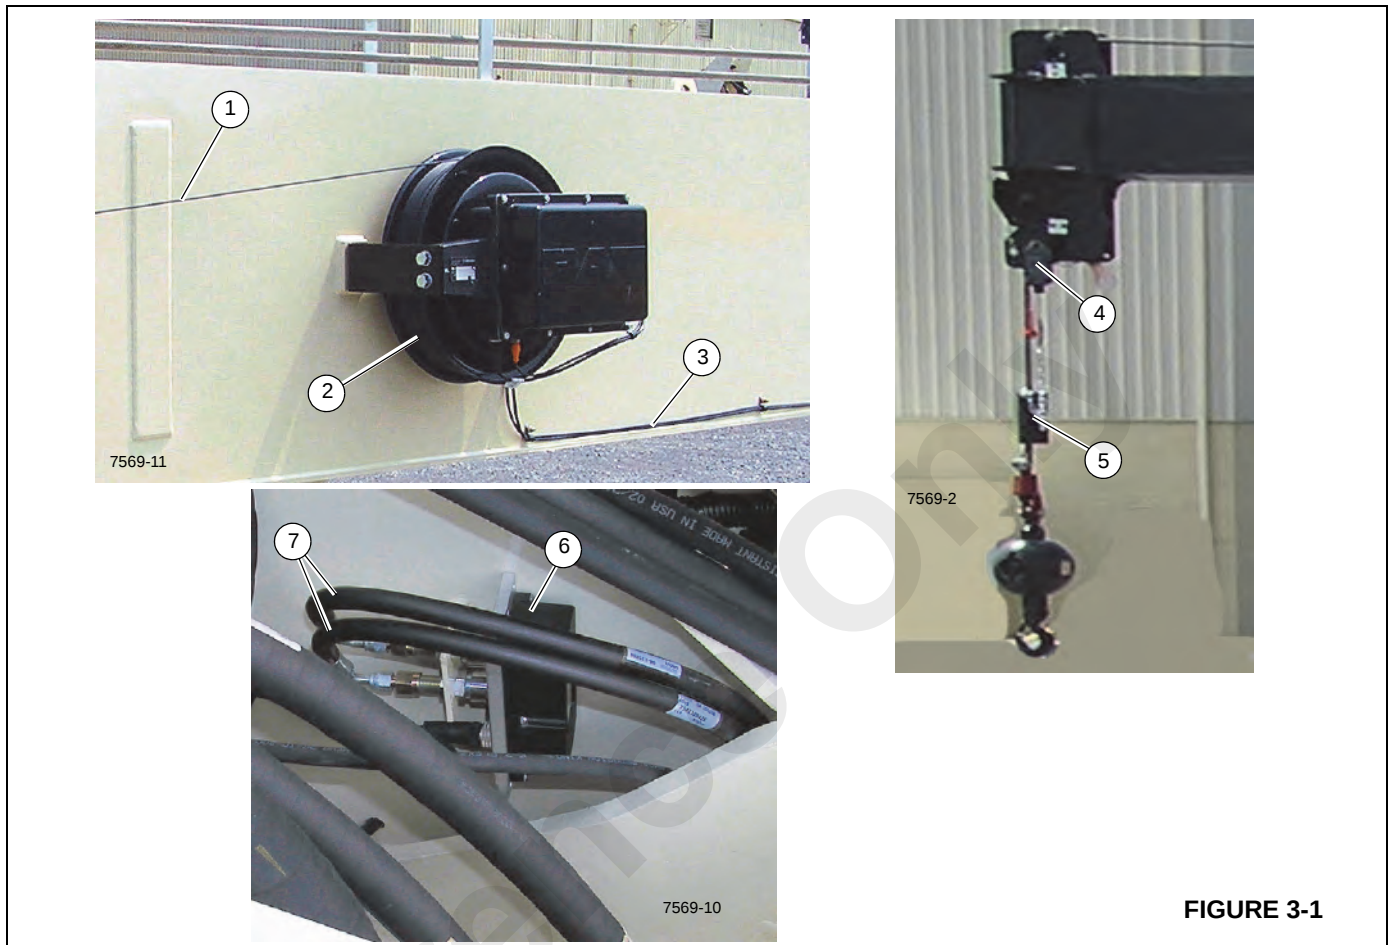

FIGURE 3-1
The boom ATB/RCL cable (1, Figure 3-1) runs from the ATB reel (2) through the boom and to the ATB switch assembly (4). The ATB switch assembly cable is attached to the anti-two block weight (5).
The RCL cable (3, Figure 3-1) runs from the bottom of the reel (2) to the end of the boom, then splits, with one end running down through the turret to the boom lift cylinder pressure transducer (6) and the other end to the cab operator's console.